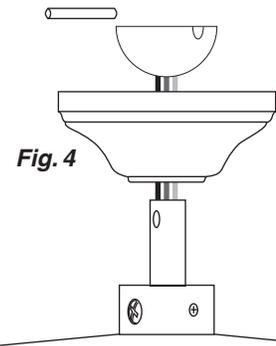

Fig. 4
4. Place the canopy around the downrod. Slide the ball onto the downrod and replace pin. See Fig. 4